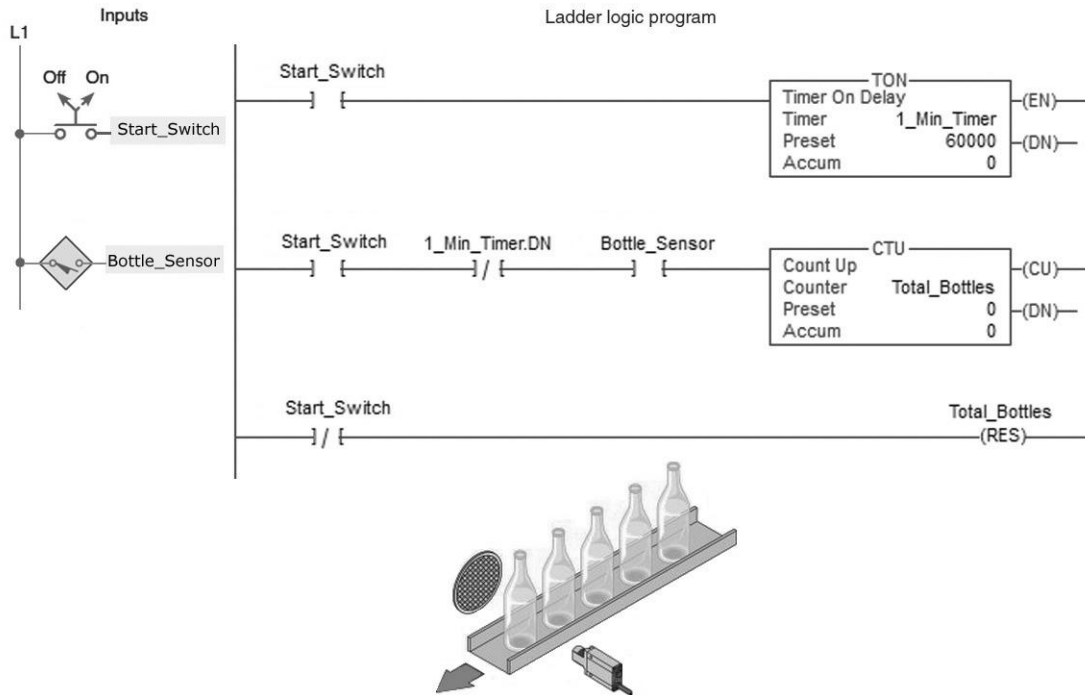

Figure 15-39 Bottle flow rate program for assignment 5.
5) The bottle flow rate program of Figure 15-39 is described in the text. Prepare an I/O connection diagram and ladder logic program that will simulate its operation. Utilize field devices found on your ControlLogix installation. Enter the program into the controller, and monitor its operation.